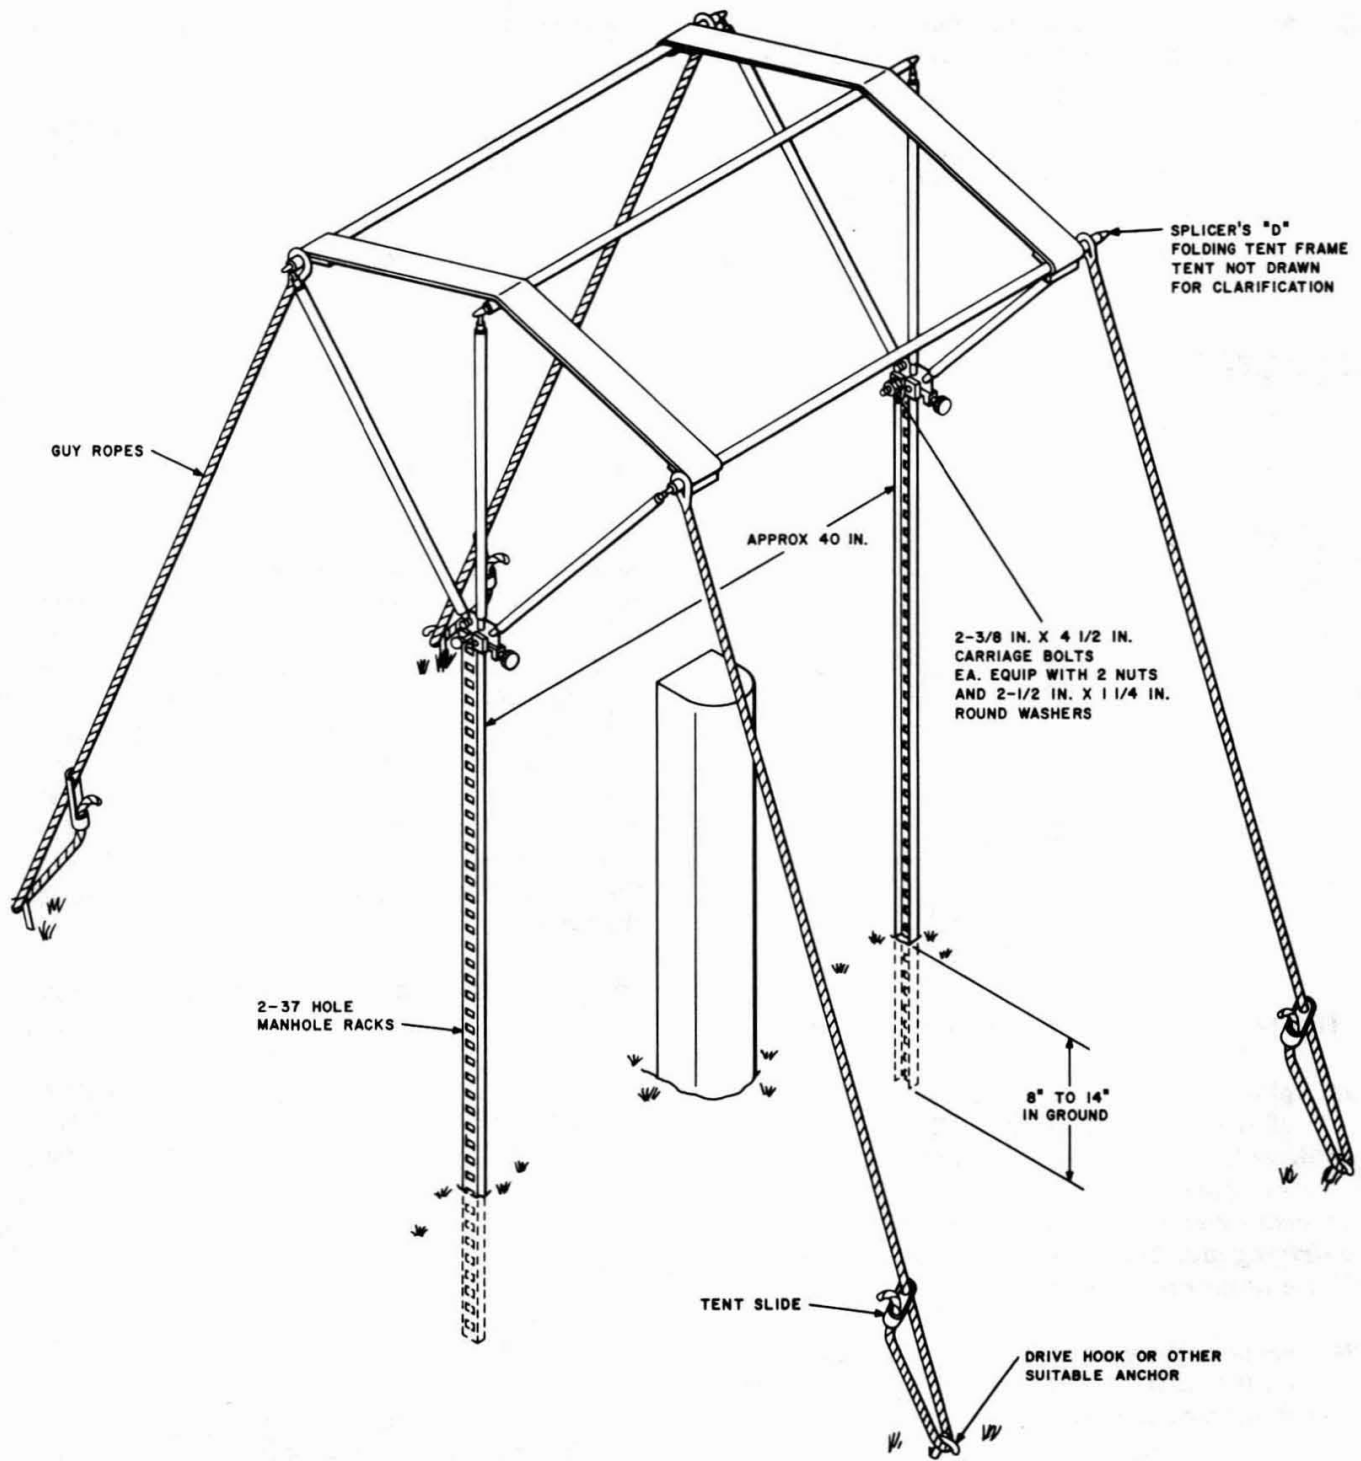

Fig. 13—D Workman's Tent Placed on Manhole Rack
5.23 ♦ Position the manhole racks so that heads of bolts are pointed away from work area, then drive the racks into the ground approximately 40 inches apart and 8 to 14 inches deep (Fig. 13). *Exercise extreme caution in selecting location for driving manhole rack to avoid the possibility of damaging buried cables.*♦
5.25 ♦ Unfold tent and fasten the guy ropes for maximum stability as shown in Fig. 13.♦